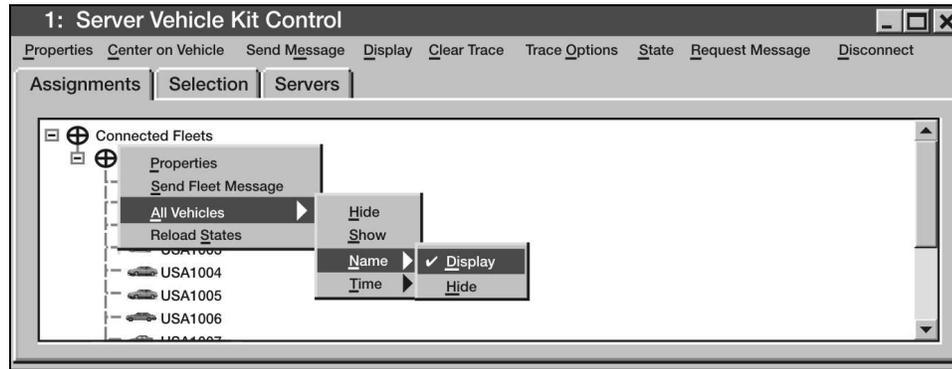

Figure 3-46. Hide and Show Group of Vehicles
- (f) Hide/Show entire control groups (see Figure 3-46).